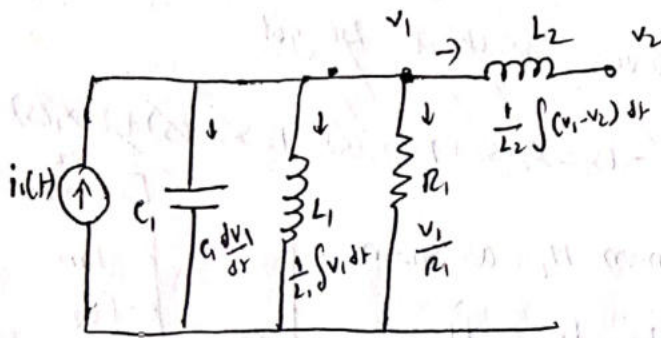
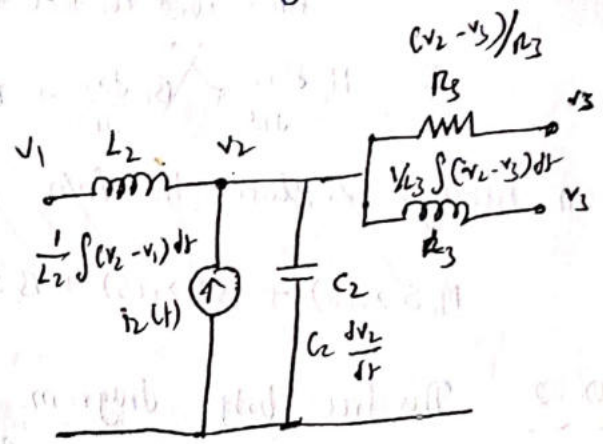
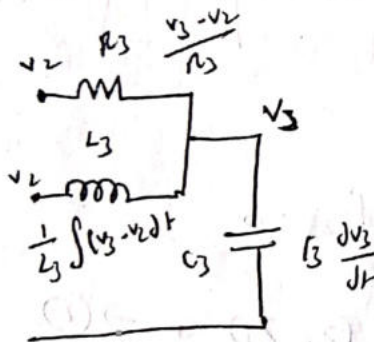

fig. 5
fig. 6
fig. 7
The electrical analogous circuits for Equation (7) and Equation (8) as shown in fig. 4 and fig. 5 and The free current electrical analogous circuit is shown in fig. 6.
The electrical analogous circuits for Eqs. (10), (11) & (12) are shown in fig. 5, fig. 6 and fig. 7. The force voltage current electrical analogous circuit is shown in fig. 8.
The Electrical Analogous circuits for Equations 10, 11 and 12 as shown in fig. 5, fig. 6, fig. 7 and fig. 8.